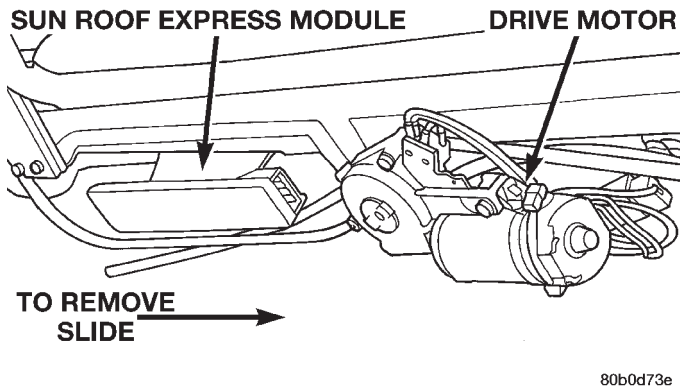

Fig. 2
- (1) Remove A-pillar trim, sun visors, and map lamps/mini console.
- (2) Remove sunroof opening trim lace. Refer to Sunroof Opening Trim Lace.
- (3) Remove headliner as necessary to gain access to sunroof express module.
- (4) Disconnect the express module wire harness connectors (Fig. 2).
- (5) Remove express module from the keyway by sliding module towards the center of the vehicle.